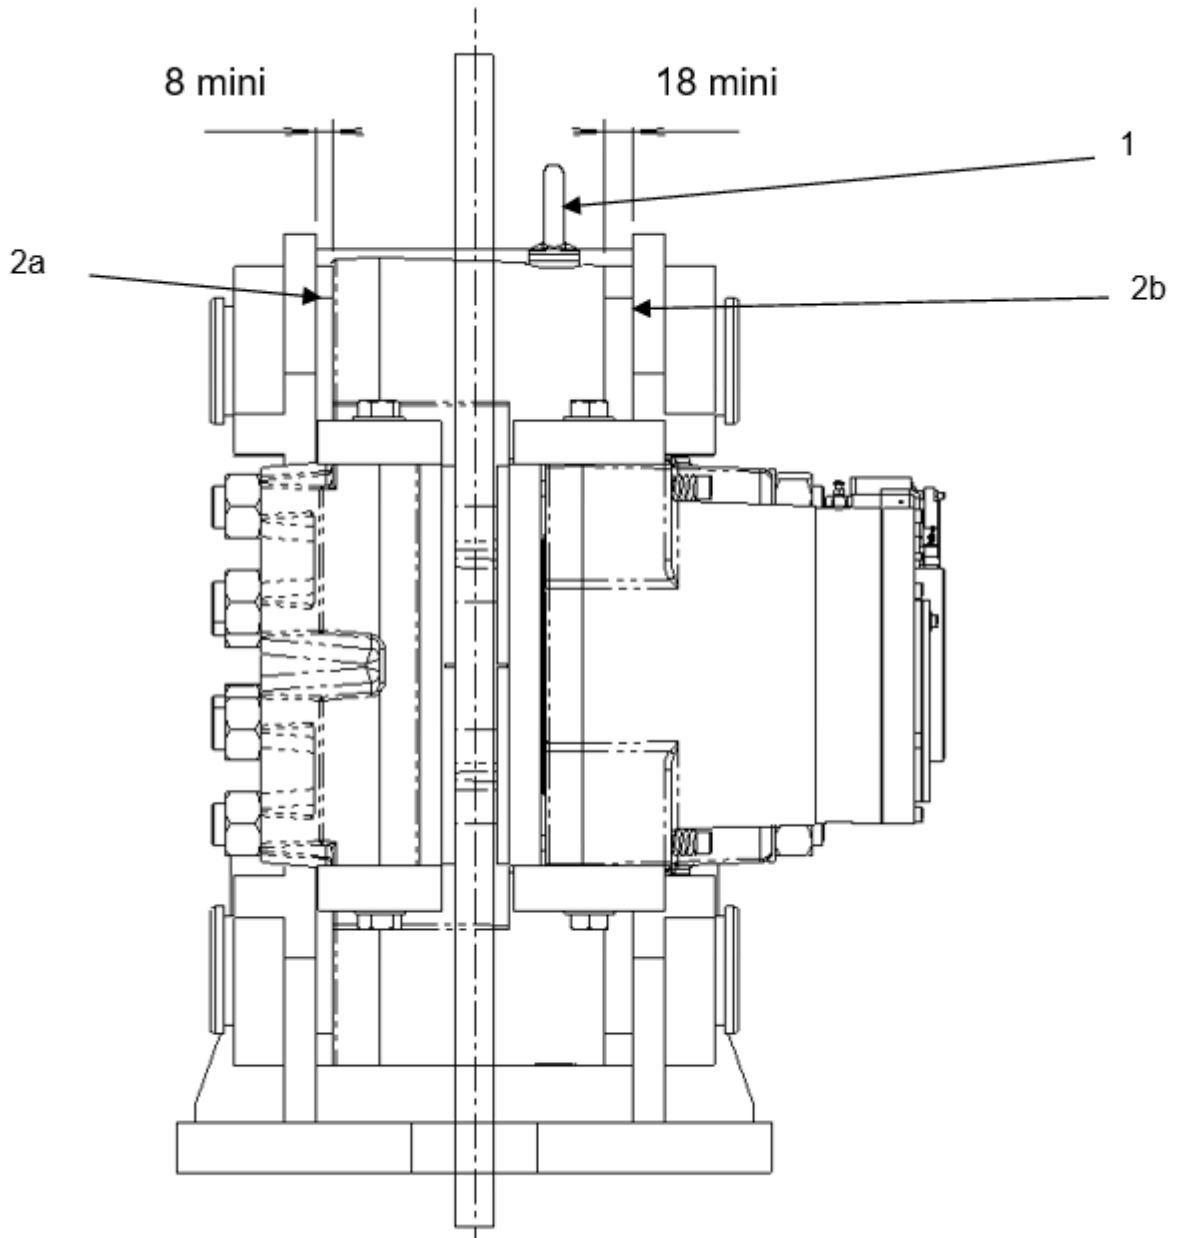

Fig. 2.3
2. Brake HS 165 FHM-420 H check the disc position 8mm mini fixed pad side 2a; 18mm mini from the other side 2b Fig. 2.3.